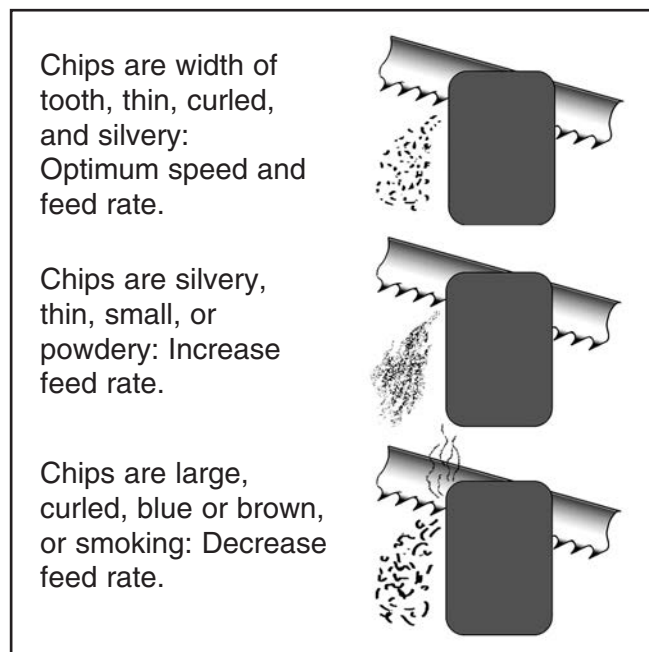

Figure 29. Reading chip characteristics.
- When cutting metal, pay attention to the characteristics of the chips when cutting—they are good indicators of proper blade speed and feed rate. **Figure 29** shows the basic chip characteristics and what they mean.